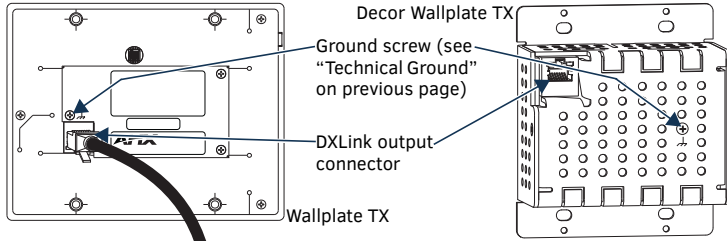

FIG. 7 CONNECT TWISTED PAIR CABLE TO DXLINK CONNECTOR ON TX (WALLPLATE TX SHOWN)
If the system is experiencing problems with delivery of DXLink signals to/from an Enova DGX Digital Media Switcher or Enova DVX Solution, adding a ground wire from the TX/RX to the switcher may improve performance (see FIG. 7 on the next page). Technically this type of grounding is only required when a DXLink Transmitter or Receiver is connected to an ungrounded device, but this added grounding measure can be used at the discretion of the installer (for instructions, see the *Hardware Reference Manual*).
2. Attach a twisted pair cable from the DXLink Input Board on the switcher through the mounting bracket to the DXLink connector on rear of Wallplate TX (FIG. 7).